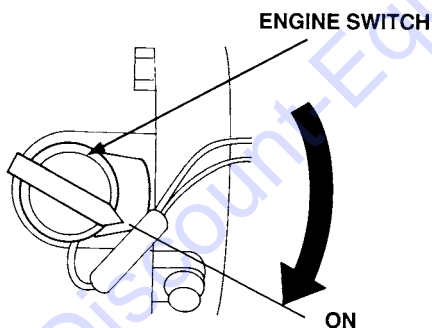

Figure 36. Engine ON/OFF Switch (ON Position)
2. Rotate the crank handle clockwise to lower, and counterclockwise to raise, the boom (Figure 36).
1. Turn the engine start/stop switch to the "ON" position (Figure 36).